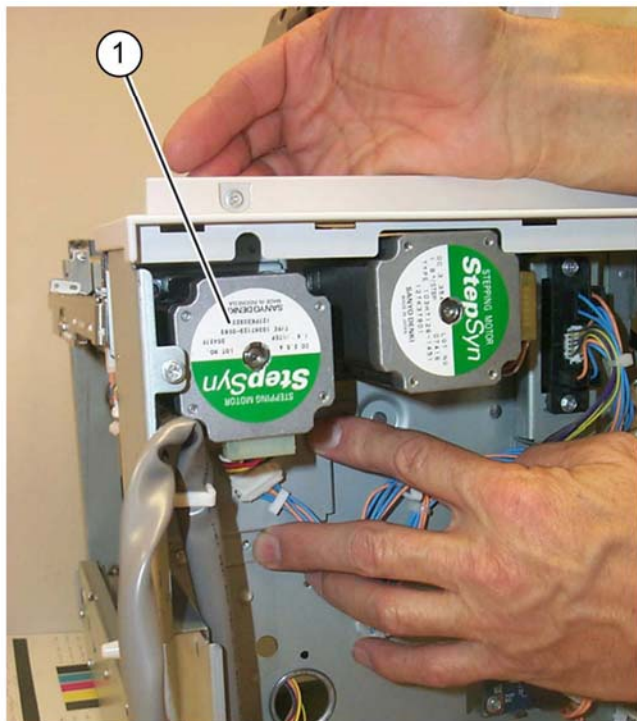

Figure 1 HCF feed/lift motor removal
4. While supporting the motor with one hand, remove two screws then the HCF feed/lift motor (1), Figure 1.